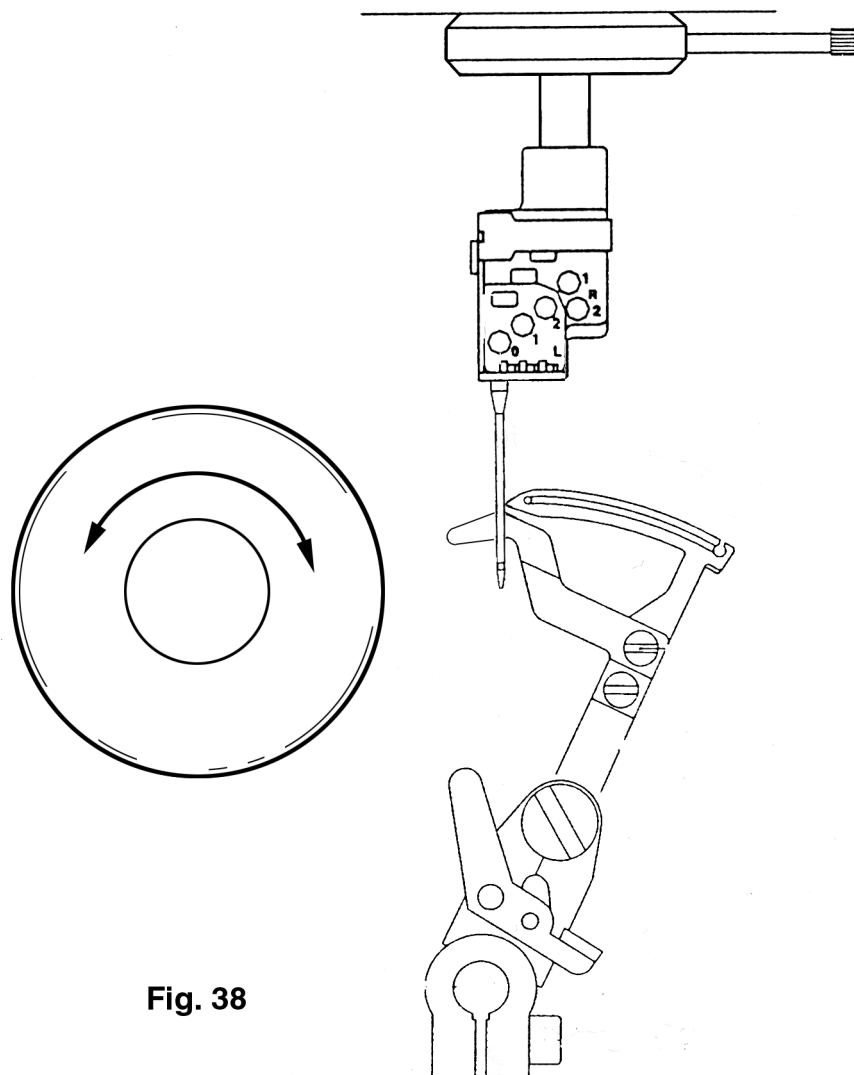

Fig. 38
- Push the needle bar clamp up against the machine's housing and slightly turn the knurled screw (fig. 38).